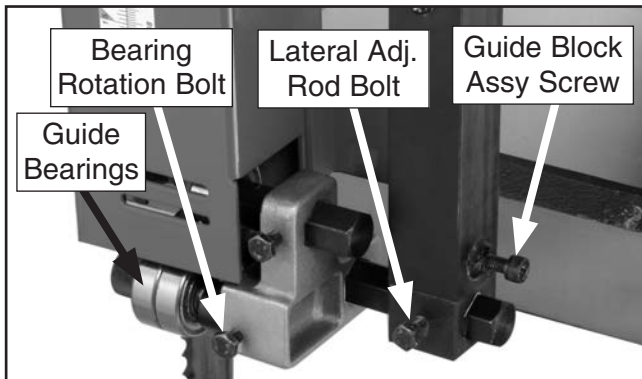

Figure 44. Upper blade guide controls (rear view).
3. Familiarize yourself with the upper support bearing controls shown in **Figures 44–45**.